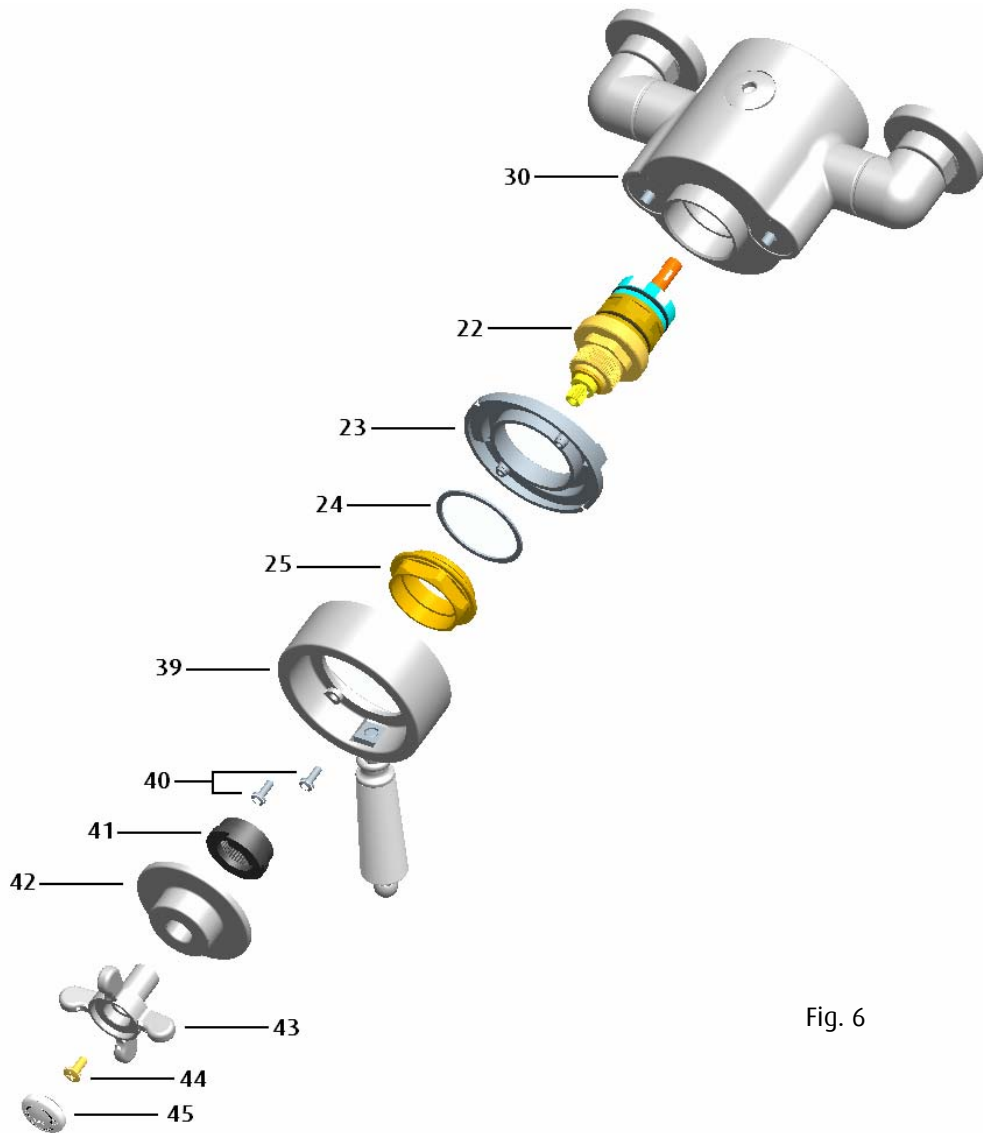

Fig. 6
8.3 Cartridge Removal (See Fig. 6).